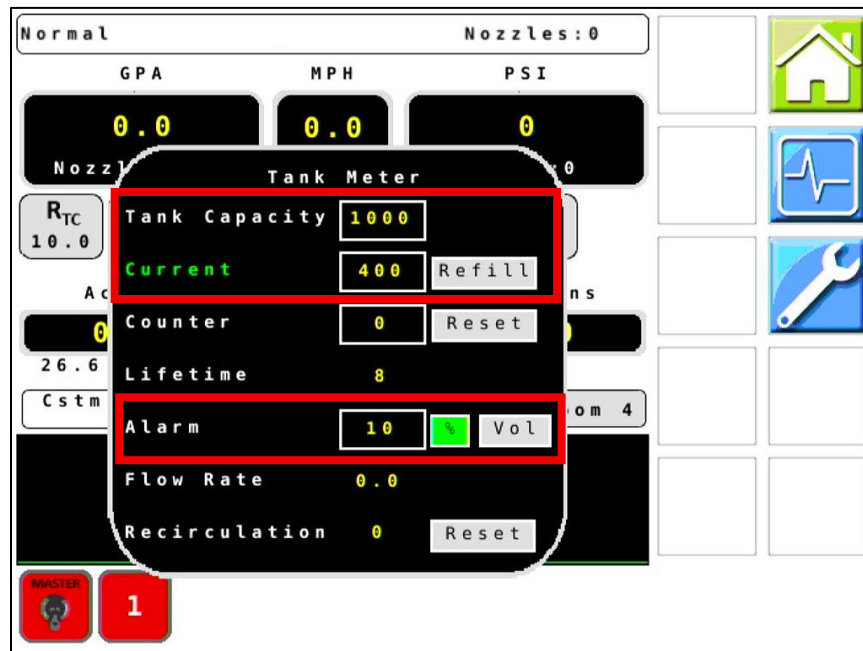

Figure 26 – Tank Meter Popup
43. **Figure 26:** Enter the **Tank Capacity**, **Current Volume** in the tank, and the **Alarm** threshold for alerting when volume is running low if desired.